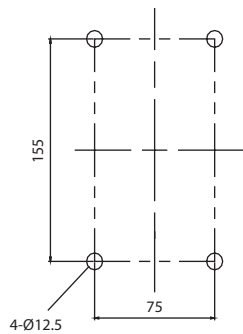

FIG. 1
1. If you want to install the speed dome on the concrete wall, you need to make 12.5mm diameter 4 holes by drill like FIG. 1 ( Depth 37mm)